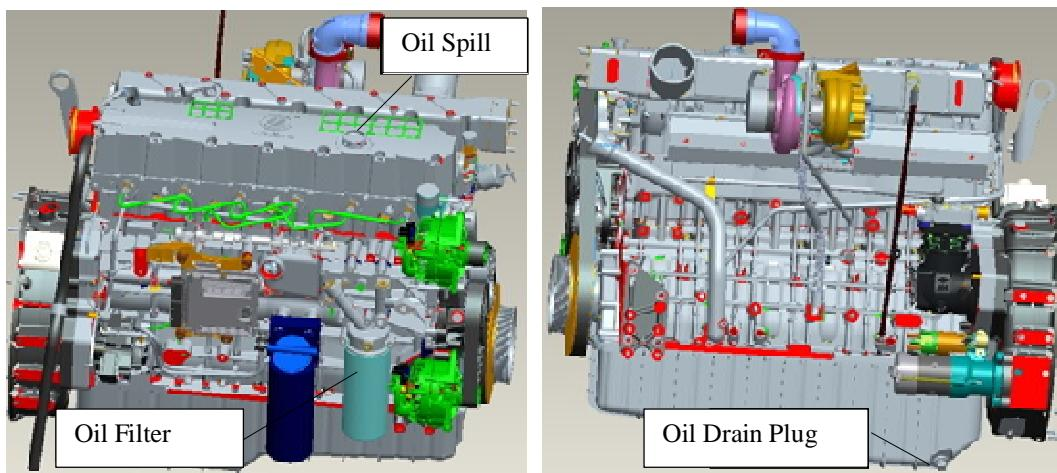

Figure 2-8 Location of oil spill, oil discharge, oil filter
- (1) Replace lubricating oil, as figure 2-8.